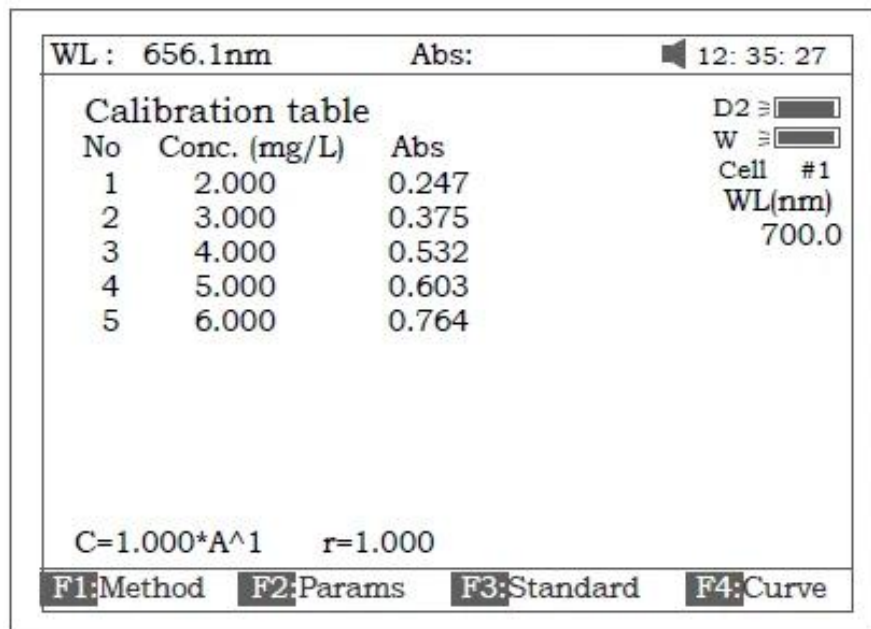

Figure 33
3.3.3 Pull the first sample cuvette of known concentration into the light path, Press the key **【START】** to get values of standard curve one by one (Fig 33).
In Fig 33 press **【Load】** and then press **【Λ】** or **【v】** to select the file with type **\*\*\*.fit**. At last press **【ENTER】** TO confirm.